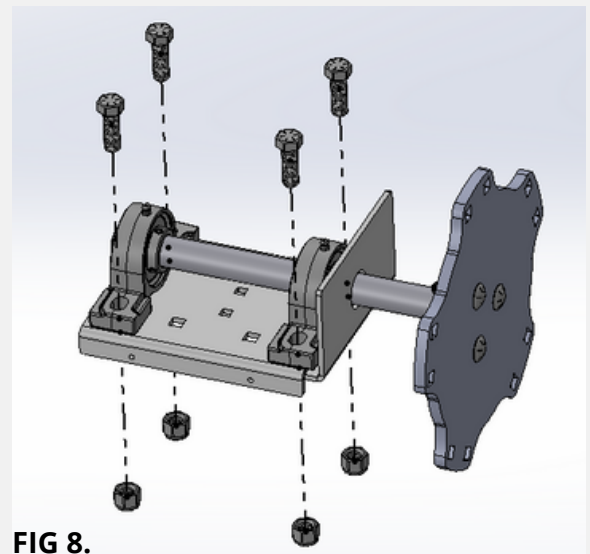

FIG 8.
8. Install 1/2" x 1-1/2" Hex Head Bolts into Bearings and secure with Nylon Nuts. (4pcs). As shown in Fig. 8